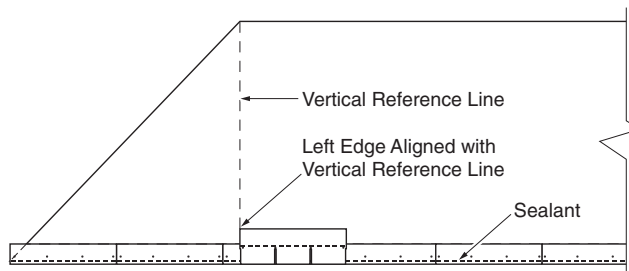

Figure 9-2: Installing the first shingle of the first course with the left edge aligned with the vertical reference line
1. Install the first shingle of the first course with the left edge aligned with the vertical reference line (see Figure 9-2).
3. Install starter strips as directed in the application instructions for the shingle being applied. Overlap the vertical reference line by the measured half tab-length portion of the shingle instead of cutting it off. The starter strip should extend the entire length of the eaves (Figure 9-2).